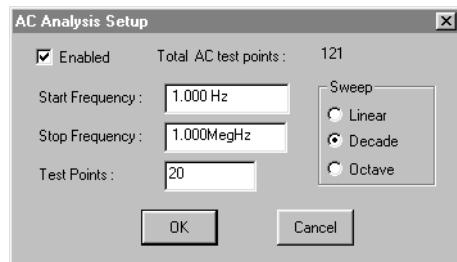

Figure 6.14. Use this dialog box to set up an AC Analysis (frequency sweep).
- 3 Click the **AC** button to display the dialog box pictured in Figure 6.14.